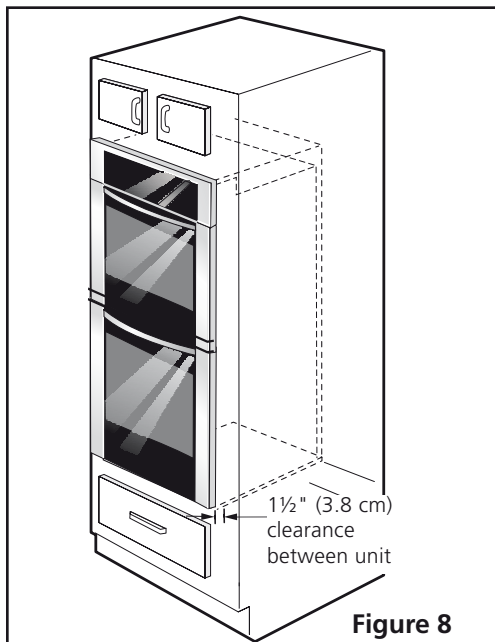

Figure 8
- 6 Insert the unit into the cabinet opening. Slide unit inward leaving 1½" (3.8 cm) clearance between the unit and front of cabinet (see Figure 8).